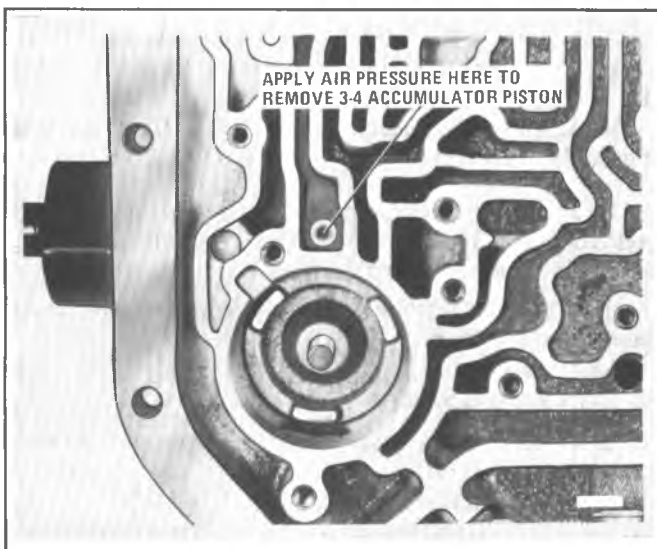

Figure 7A6-18 Removing 3-4 Accumulator Piston
b. Remove governor assembly from case (Figure 7A6-21). It may be necessary to rotate output shaft counterclockwise while removing the governor. Do not use any type of pliers to remove governor assembly.